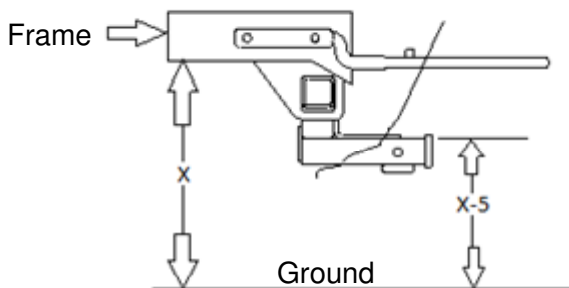
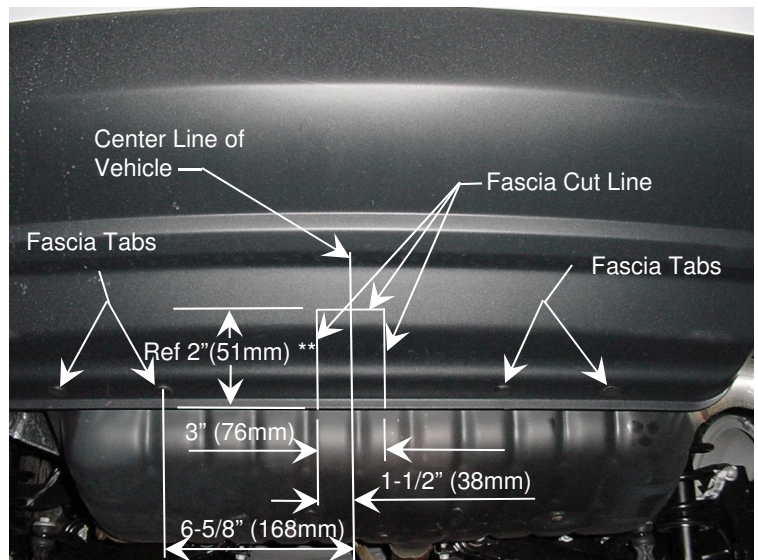

Figure 4
Figure 3
1. If vehicle has **optional tow hook** see Note 1. above. For **Compass Rallye** see Note 2 and Figure 2. **Check with vehicle owner.** For **2011 and later Jeep Patriot and Compass models.** Fascia trimming is required for hitch installation. Obtain vehicle owners approval before cutting. See Figure 3 and figure 4 for fascia trimming diagrams.
** 2011 model has 2" vertical fascia trim (measured from the bottom of the fascia lip). Mark fascia with non-permanent marker. Re-confirm fascia cut height by using figure 4 procedure and mark height from ground on fascia. Cut the lower of the two marks.